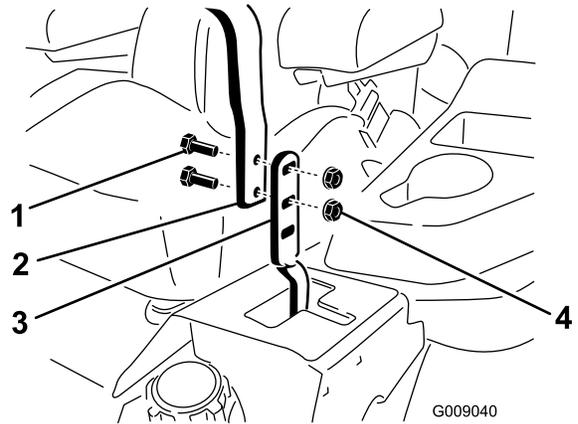

Figure 90
3. Loosen the bolts and flange nuts installed in the levers (Figure 90).